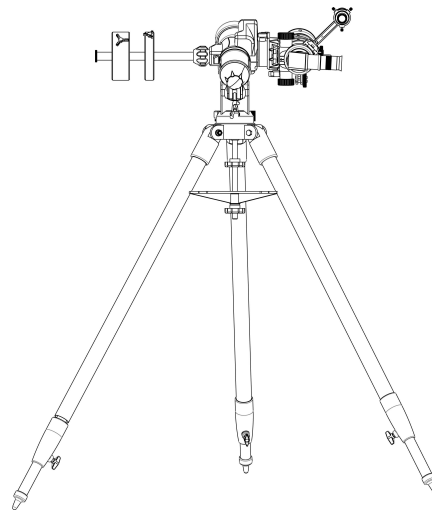
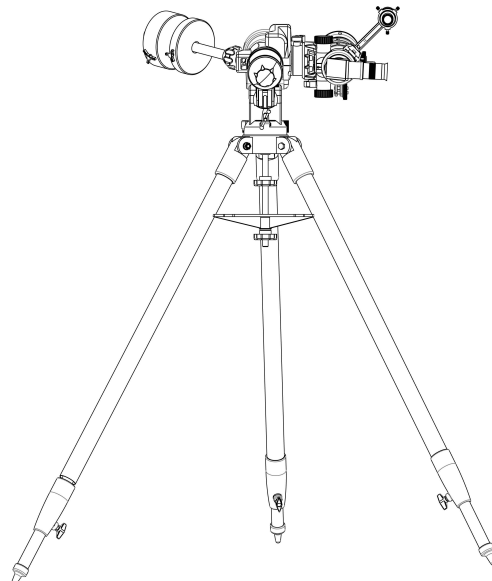

Fig. 6
Fig. 8
## 2.2 Balancing the Telescope (Fig.6 to Fig.8)
2. Loosen the RA clutch wheel (1) and put the counterweight bar in a horizontal position as shown in Fig.6 and Fig.8. Check the balance of the mount, and shift the counterweight on the counterweight bar as needed.